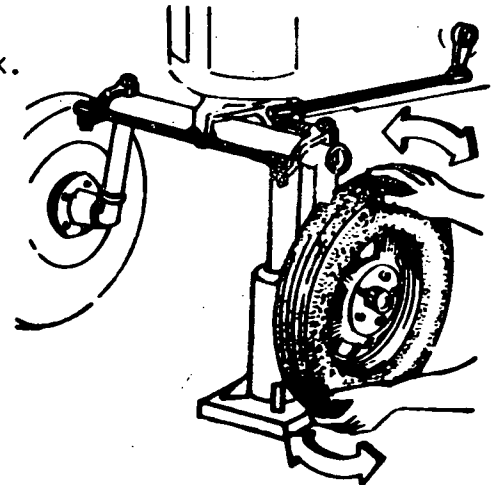

Fig. 1
- b) Move the wheel in and out and check the play of the front wheel bearing. Hold the wheel at top and bottom as shown (Fig. 1).